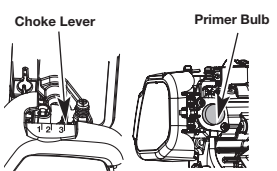
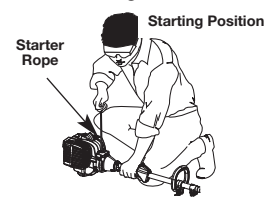

Fig. 19
Fig. 20
- Fully press and release the primer bulb 10 times, slowly. Some amount of fuel should be visible in the primer bulb and fuel lines (Fig. 19). If fuel can not be seen in the bulb, press and release the bulb until fuel is visible.
- Place the choke lever in **Position 1** (Fig. 19).
- Crouch in the starting position (Fig. 20). Squeeze the throttle control lever. Pull the starter rope 5 times.
- Place the choke lever in **Position 2** (Fig. 19)
- Continue squeezing the throttle control, move the choke lever to **Position 3** (Fig. 19) and continue warming the engine for an additional 60 seconds. The unit may be used during this time.
**IF...**the engine hesitates, return the choke lever to **Position 2** (Fig. 19) and continue warm-up.
- There is no need to turn the unit on. The On/Off Control is in the ON (I) position at all times (Fig. 19).
- Fully press and release the primer bulb 10 times, slowly. Some amount of fuel should be visible in the primer bulb (Fig. 19). If fuel cannot be seen in the bulb, press and release the bulb until fuel is visible.
- Move the choke lever to **Position 1** (Fig. 19).
- Crouch in the starting position (Fig. 20). Place the electric starter or power start bit into the back of the unit. Refer to the Operation section of the Electric Starter or Power Start Bit operator's manual.
- Squeeze the throttle control lever. Press and hold the electric starter or drill ON (I) button for 2 seconds.
- Move the choke lever to **Position 2** (Fig. 19).
- Squeeze the throttle control lever, press and hold the electric starter or drill ON (I) button for 2-second intervals until the unit starts.
- Continue squeezing the throttle control, move the choke lever to **Position 3** (Fig. 19) and run the unit for an additional 60 seconds. The unit may be used during this time
**IF...** the engine hesitates, return the choke lever to **Position 2** (Fig. 19) and continue warm-up.
**IF...** the engine fails to start after 2 attempts, place the choke lever in **Position 3** and squeeze the throttle control. Press and hold the electric starter or drill ON (I) button for 2-second intervals until the unit starts.
- Press and hold the On/Off Control switch in the **OFF (O)** position until the unit comes to a complete stop (Fig. 19).